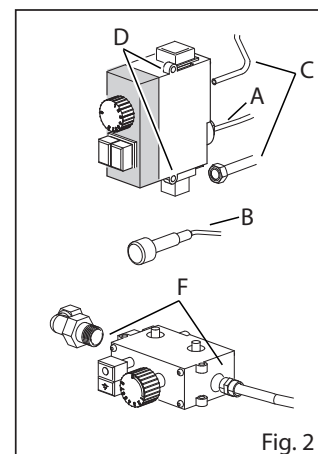
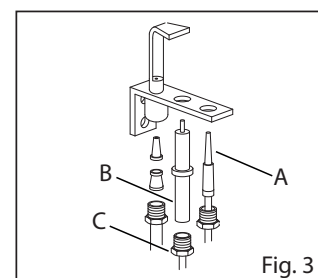

Fig. 2
Fig. 3
- Open the cut-off cock upstream the equipment (Fig. 2);
- Reassemble the screw with gas seal washer in the appropriate seat, open the cut-off cock upstream the machine (Fig. 2) and check by turning the burner on, that there are no gas leakages.
- Demount if necessary, the plugs in order to avoid to damage it during the injector replacement (Fig. 2).
- Unscrew the injector (Fig. 3)
- Remove the thermocouple from the valve (Fig. 2/A) and pilot unit (Fig. 3/A)
- Disconnect the high voltage cable from the plug (Fig. 3/B)
- Unscrew the nut (Fig. 3/C)
- Connect the high voltage cable (Fig. 3/B)
- Disconnect the wire from the piezoelectric igniter (Fig. 2/B)
- Unscrew the thermocouple and gas inlet/outlet connections (e.g. Fig. 2/A+C - Top version Fig. 2/F)